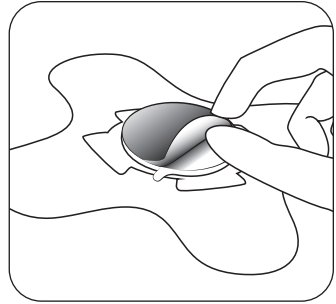

figure 9A: Removing Foil Seal
- A. Remove the circular seal from the top of the Patch to reveal the coupling media within the gel cup (Figure 9A).